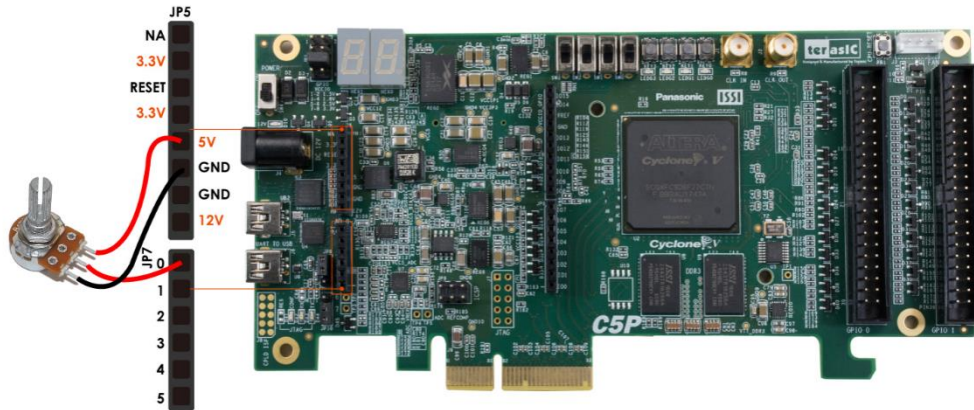

Figure 5-20 ADC Reading Demo hardware setup
- As shown in **Figure 5-20**, connect the Trimmer Potentiometer to corresponding ADC channels on the Arduino IO header. **Please make sure working on the ADC channels (AD4 or AD5) by referring to Table 3-12.** Connect the Trimmer Potentiometer input to JP5 5V(Pin5) & GND(Pin6 or Pin7), and connect the